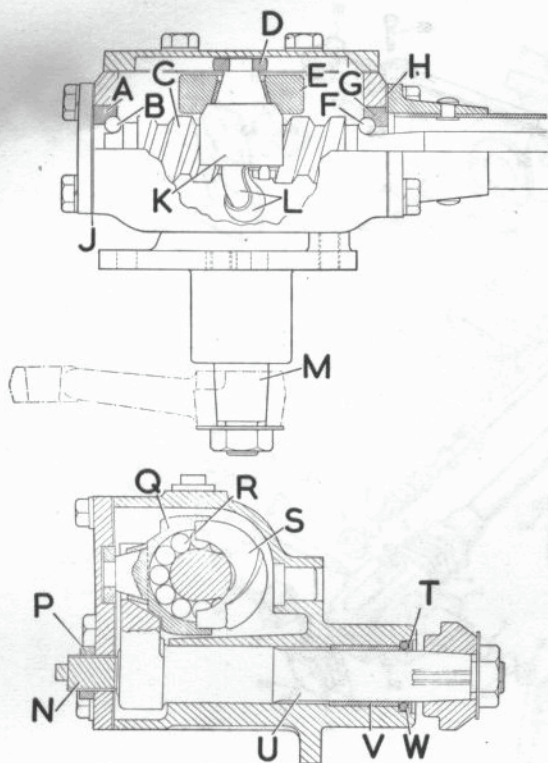

FIG 10:3 Recirculating ball steering box
Key to Fig 10:3
- 1 Refer to FIG 10:3. Remove the side cover and drain off the oil.